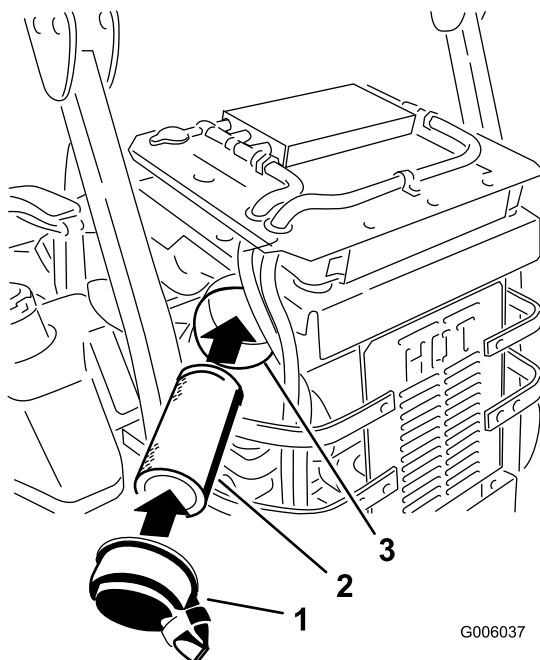

Figure 36
5. Release the latches on the air cleaner and pull the air cleaner cover off of the air cleaner body (Figure 36).
7. Gently slide the filter out of the air cleaner body (Figure 36). Avoid knocking the filter into the side of the body.
2. Carefully slide the filter into the filter body (Figure 36). Ensure that it is fully seated by pushing on the outer rim of the filter while installing it.
3. Install the air cleaner cover and secure the latches (Figure 36).